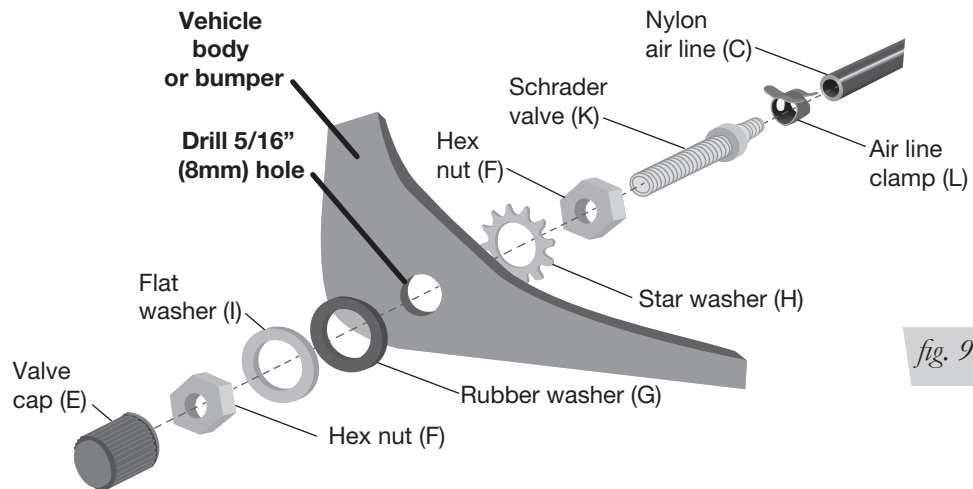

fig. 9
4. Drill a 5/16" (8mm) hole for the Schrader valve (K) and mount as shown (Fig. 9). Install the air line on the Schrader valve first. The rubber washer (G) serves as an outside weather seal.